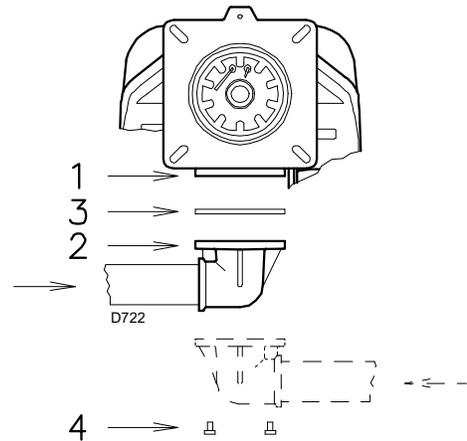

Fig. 21
- The gas train must be connected to the gas attachment 1) (Fig. 21) with the flange 2), the gasket 3) and the screws 4) supplied with the burner.